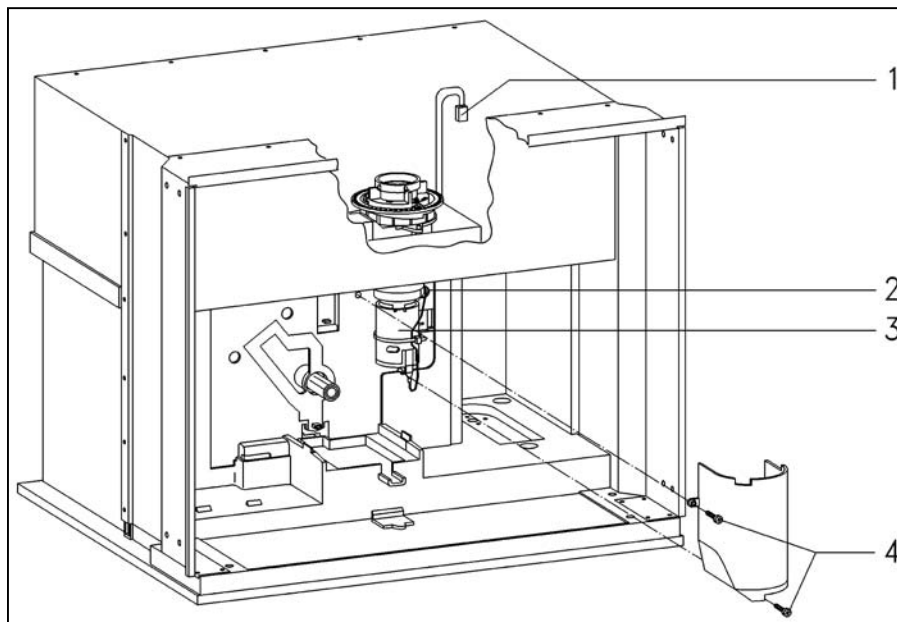

Figure 5-47: Grinder Removal
Refer to Figure 5-47.
8. Remove the cover fixing screws (Figure 5-47 (4)).